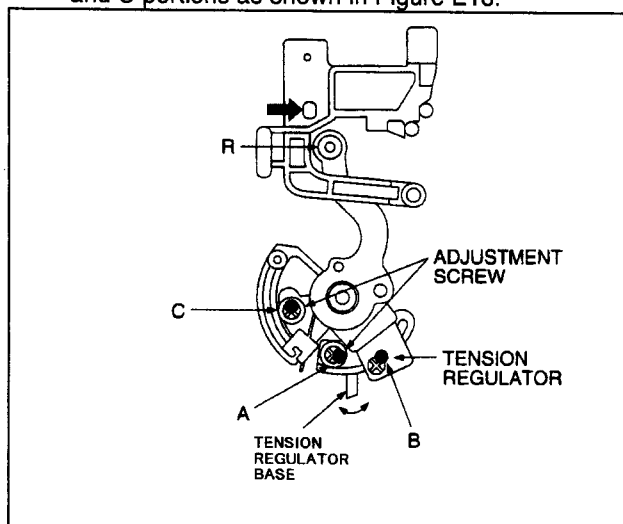

Fig. E18
4. When pressing the R portion of the Tension Post in arrow direction by Dial Tension Gauge (VFK1188) until the voltage becomes -0.92V (REV Position) as shown in Figure E18, confirm the tension is in the specification $18 \pm 2\text{gf}$.
6. Grew the screw A, B and C after Tension Arm Adjustment. The grew quantity at B portion is half of A and C portions as shown in Figure E18.